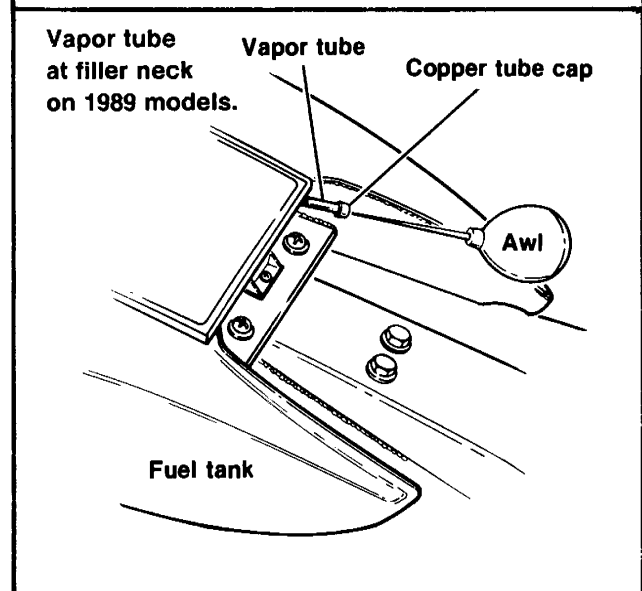

Figure 4-31. FLT Fuel Tank
4. See Figure 4-31. Remove three screws (1) securing console. Remove fuel tank cap and gently lift console upward and set console on frame behind fuel tank.
5. Remove bolt that secures front of fuel tank to frame and two screws (2) ahead of seat.
1989 AND LATER (Figure 4-31)